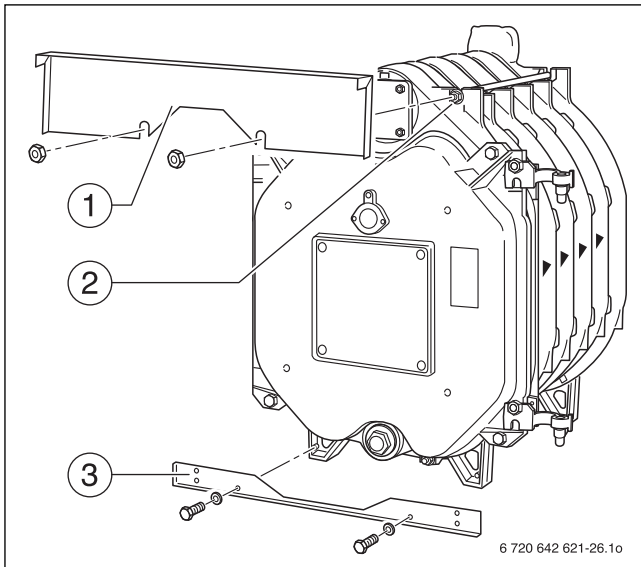

Fig. 32 Fitting the front profile rails
- ▶ An additional nut must be turned on each of the two upper tie rods on the front of the boiler (Fig. 32, [2]).
- ▶ Insert the top front crosswise tie bar (Fig. 32, [1]) between the first and second nut of the tie rods in each case and fasten to the cast lugs.
- ▶ Screw the bottom front crosswise tie bar (Fig. 32, [3]) with two machine screws to the feet of the boiler front section.